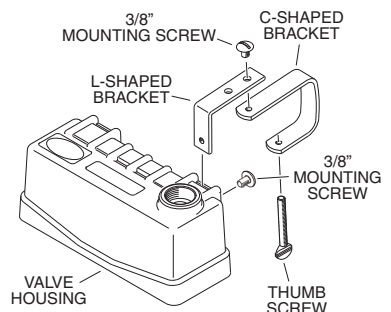

Figure 5
1. Slide both L-shaped brackets into the valve housing as shown (see Figure 5).